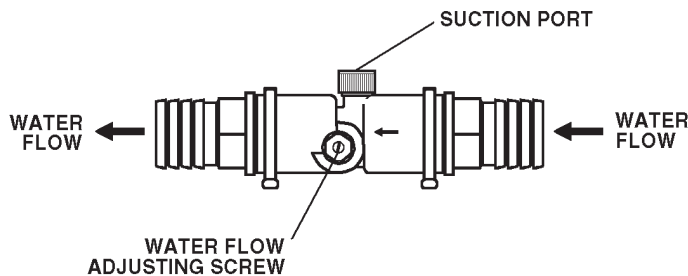

Figure 4
- b) Place a finger lightly over the SUCTION PORT (Figure 4). A slight suction should be detected for approximately ONE THIRD (1/3) of pumping cycle time. (Do not confuse with ONE THIRD (1/3) of pressure range).
- c) If suction is too short, increase by turning air adjustment screw (Figure 4), CLOCKWISE. To decrease duration, turn COUNTER-CLOCK WISE.